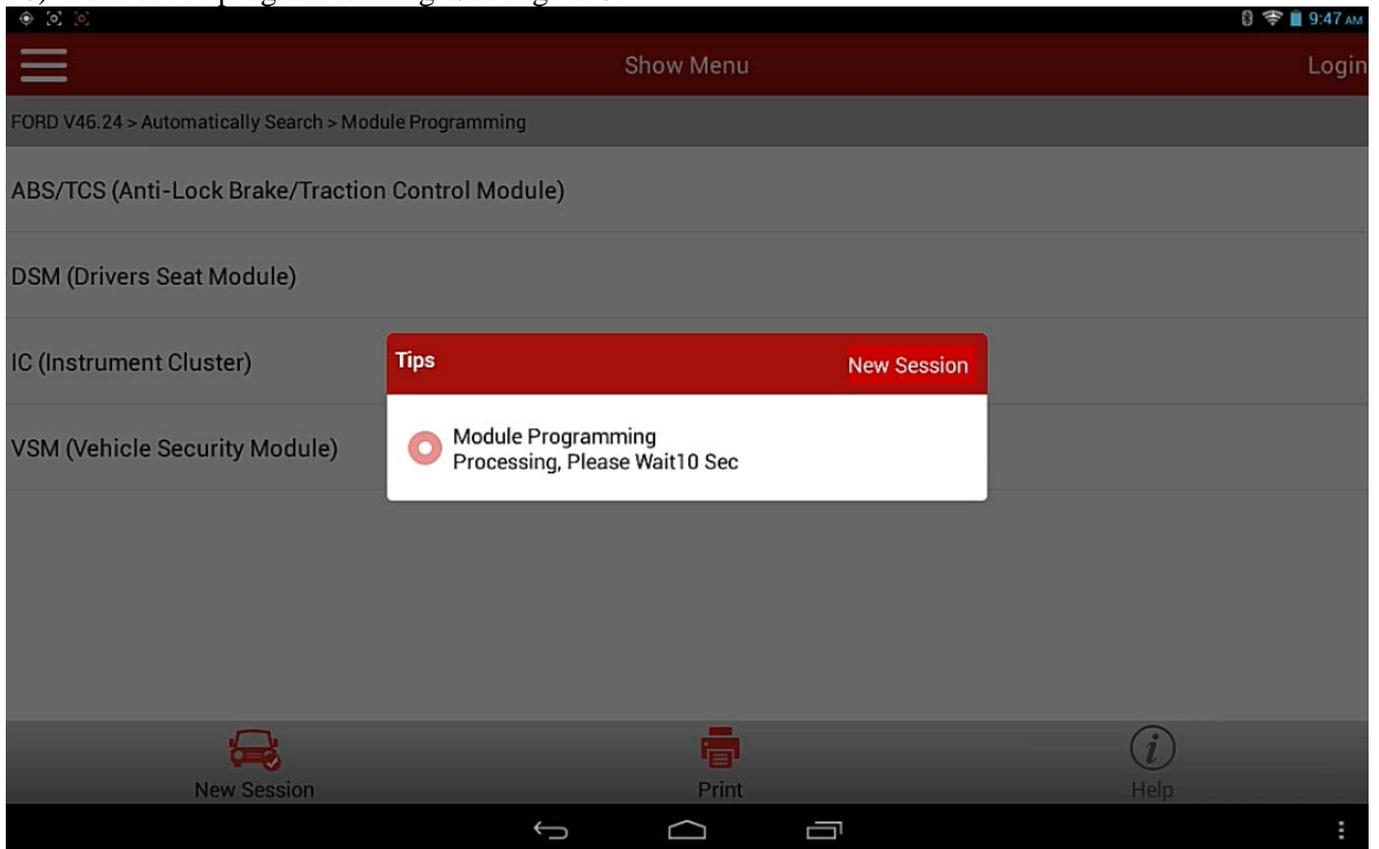

Figure 6
10). Wait for the program running. See Figure 6.